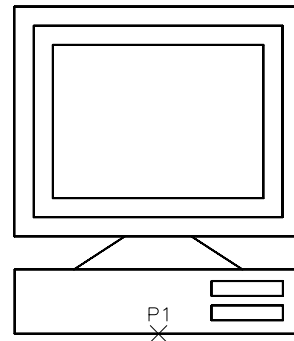

Figure 15-6 Drawing for Example 1
1. Draw the computer as shown in Figure 15-6. Assume the dimensions, or measure the dimensions of the computer you are using for AutoCAD.